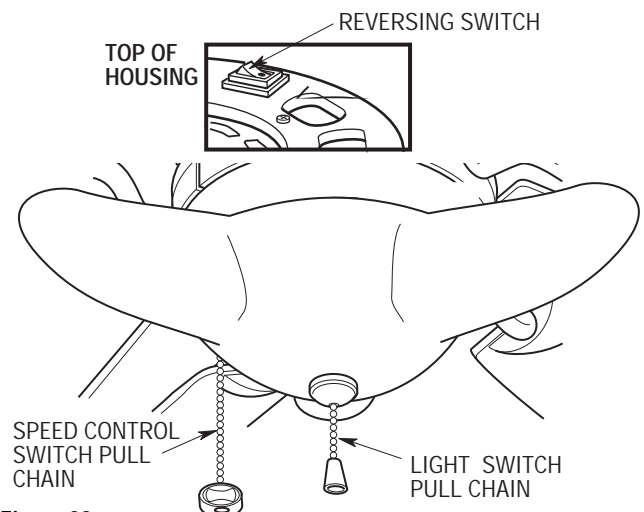

Figure 23
- 3. If airflow is desired in opposite direction, turn your fan off and wait for the blades to stop turning, then press the rocker switch located on top of the motor housing, and turn the fan on again (Figure 23). The fan blades will turn in the opposite direction and reverse airflow.